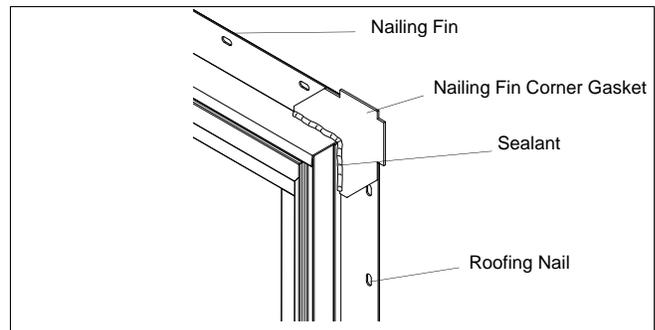

Figure 5
5. Permanently fasten nailing fin to exterior sheathing, space fasteners 10" (254) apart maximum along the side and head jambs. Install the two nailing fin corner gaskets at the head jamb corners. Apply sealant along each nailing fin corner gasket as shown in figure 5.